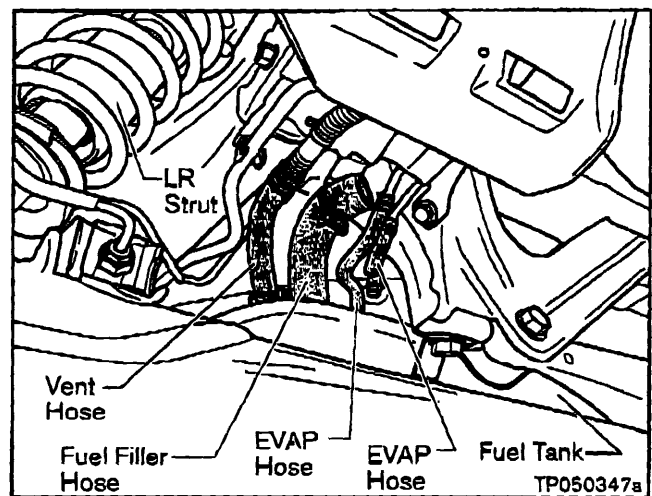

Figure 8
11. Disconnect the following Fuel Tank Hoses from the Fuel Tank (leave them connected to the vehicle). See Figure 8.